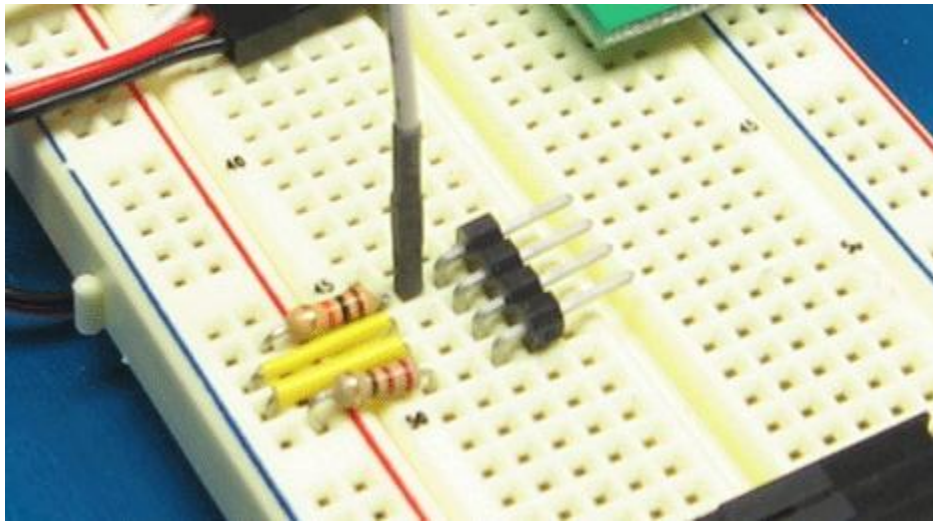

Figure 20. Jump wires and resistors for down-facing sensor.
**4. Insert two short yellow jump wires, a flexible white jump wire, a 10,000-Ohm resistor, and a 220-Ohm resistor into the XBoard, as shown in Figure 20.**